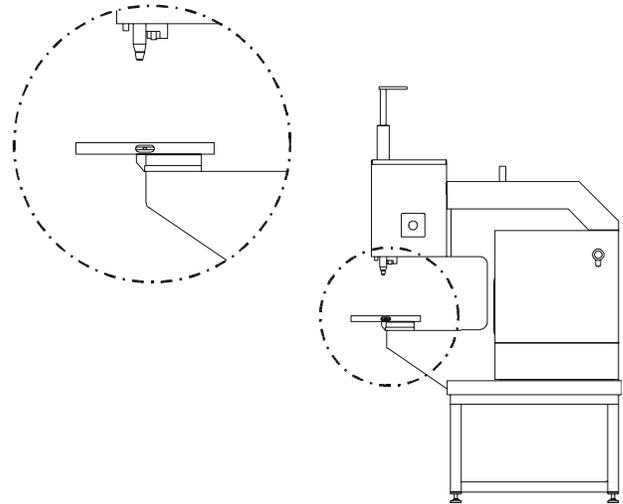

Figure 3.1: Level the machine by using the Lower Tool Holder as a reference surface
- Carefully locate the machine in the shop. Level it front to back and left to right using the top surface of the Lower Tool Holder as a reference surface (see Figure 3.1) Using a 7/8 in./22 mm wrench to adjust the feet, level the machine left to right and front to back. Make sure that all of the machine's feet are securely resting on the shop floor.